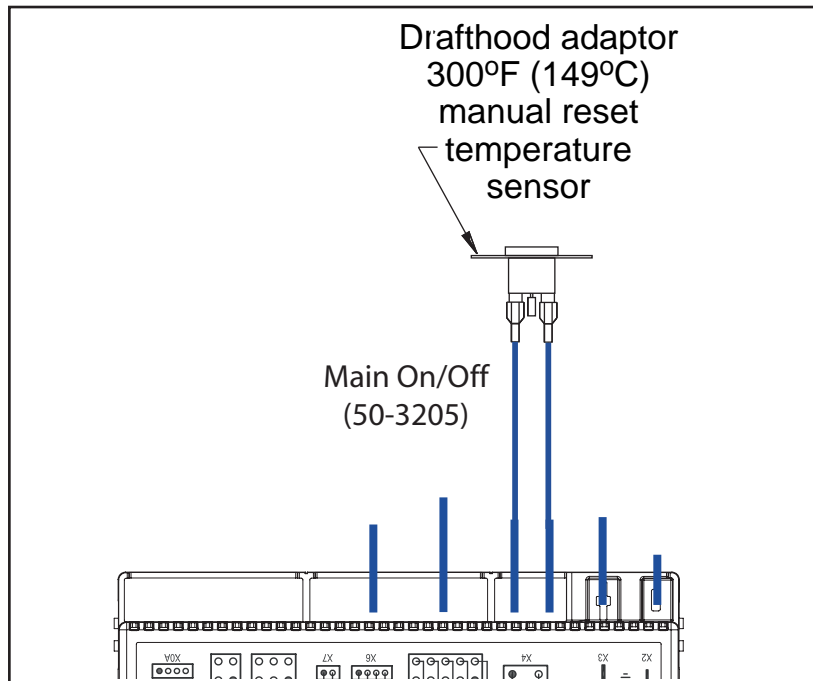

Figure 45: Wiring Diagram for Electrical Connection.
3. Being careful not to run any wiring tight across metal edges; connect them to the valve and "ON/OFF" switch (refer to Figure 45).
The fireplace connections are labelled in Figure 45. When installing the Drafthood Adaptor onto a fireplace fitted with an intermittent pilot system, remove the Main On/Off wire loop from the IFC and replace it with the drafthood adaptor wires as shown.
2. Disconnect the spill switch wires from the valve and on/off/remote rocker switch wire (see Figure 45).